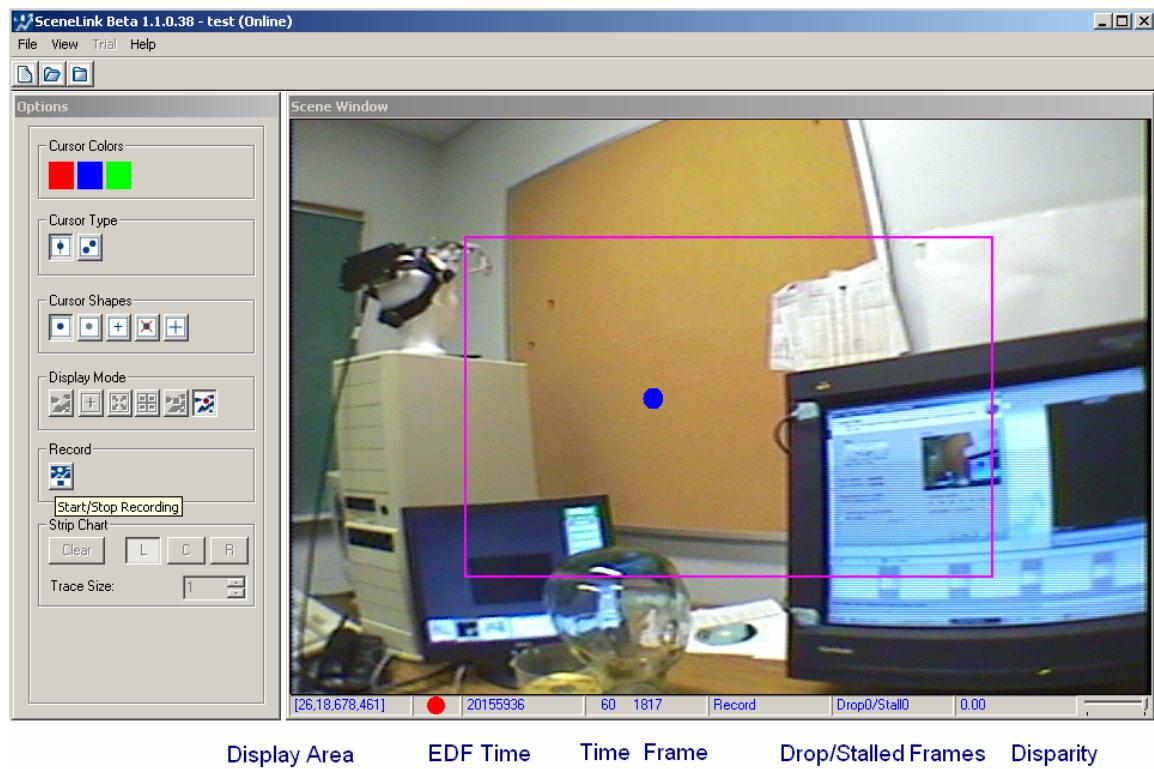

Figure 4-10. Recording Screen
- Click on the “Drift Corr” button on the Record screen of the host PC, which will flash periodically if enabled (see Figure 4-10).